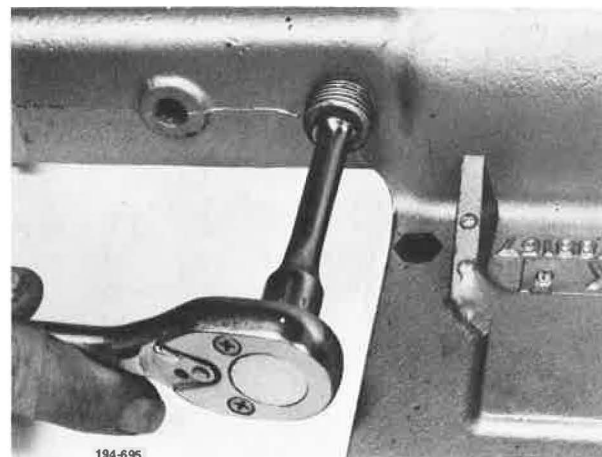

Figure 5-419. Installing Plug
17. Install interlock plunger plug into shift cover. See Figure 5-419.